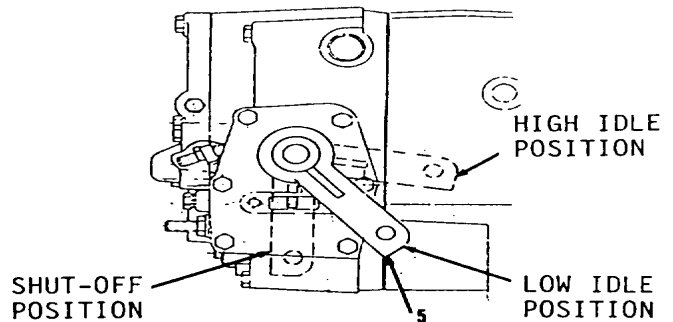

Figure 3-107.
4. Position governor control lever (5, Figure 3-107) in high idle. Record rpm.